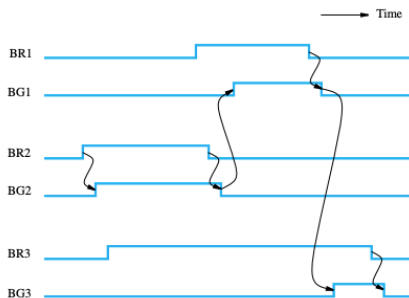

Figure 7.9 Granting use of the bus based on priorities.
7.10 [M] In the arbiter protocol example depicted in Figure 7.9, the master that receives a bus grant maintains its request line in the asserted state until it is ready to relinquish bus mastership. Assume that a common line called Busy is available, which is asserted by the master that is currently using the bus. The arbiter grants the bus only when Busy is inactive. Once a master receives a grant, it asserts Busy and drops its request, and in response the arbiter drops the grant. The master deactivates Busy when it is finished using the bus. Draw a timing diagram equivalent to Figure 7.9 for this mode of operation.